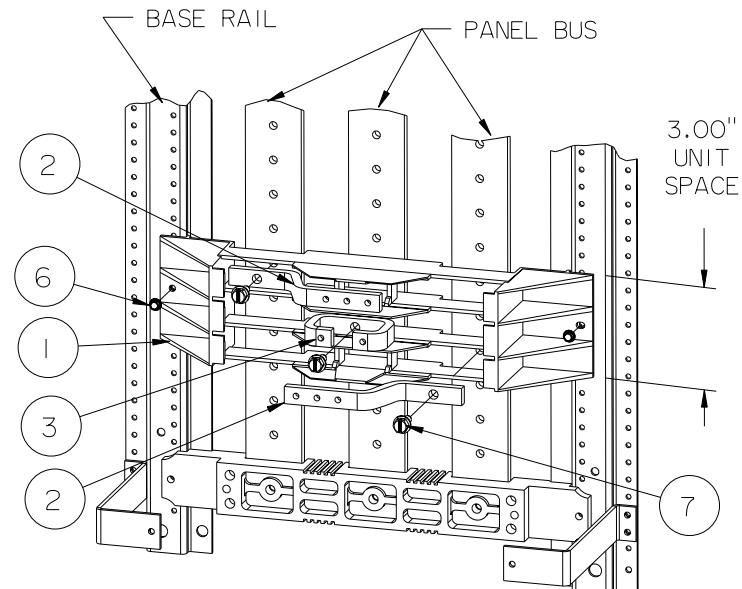

Figure 3
6. Refer to fig. 3. - Position the breaker mounting barrier (item 1) so that it fills the 3" unit space for the kit and fasten it to the base rails using two 8-32 screws (item 6). Install the two outer connectors (item 2) and the center connector (item 3) within the mounting barrier, as shown. Fasten the connectors to the panel bus with three 1/4-20 X 5/8" screws (item 7).